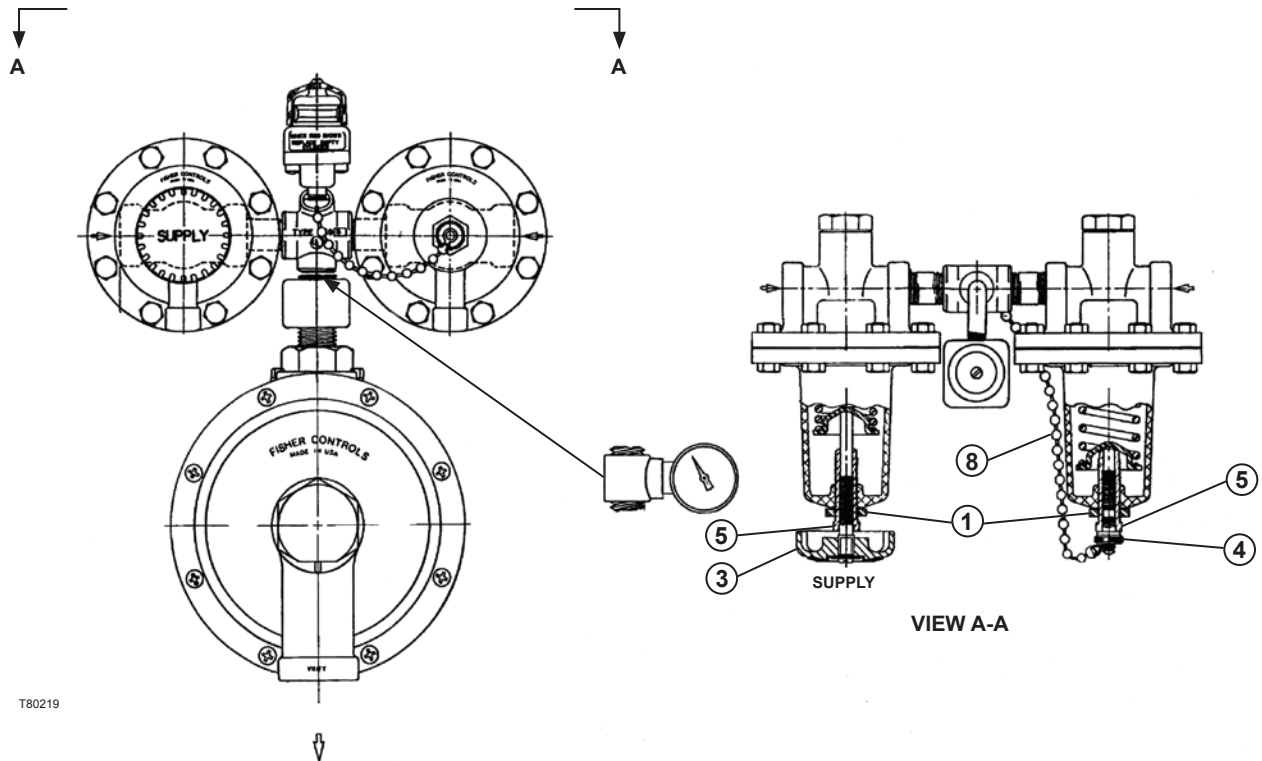

Figure 3. Assembly Drawing
Refer to Figure 3. Once the “Supply” container is empty, remove the “Reserve” cap (key 4) which is attached to the chain assembly (key 8) and the “Supply” handwheel (key 3) by turning them counter-clockwise. Do not remove the adjusting screw (key 5) or the nut (key 1) on the adjusting screw. Screw the “Supply”
To Change Settings in the Field: See Figure 3.